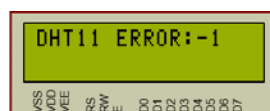

Figure 2(Error code:-1)
2.(Important)The DHT11 sensor may not working on the Proteus as the Figure 2 shows, I believe that it's a bug of DHT11 on Proteus, it will work correctly in real world.